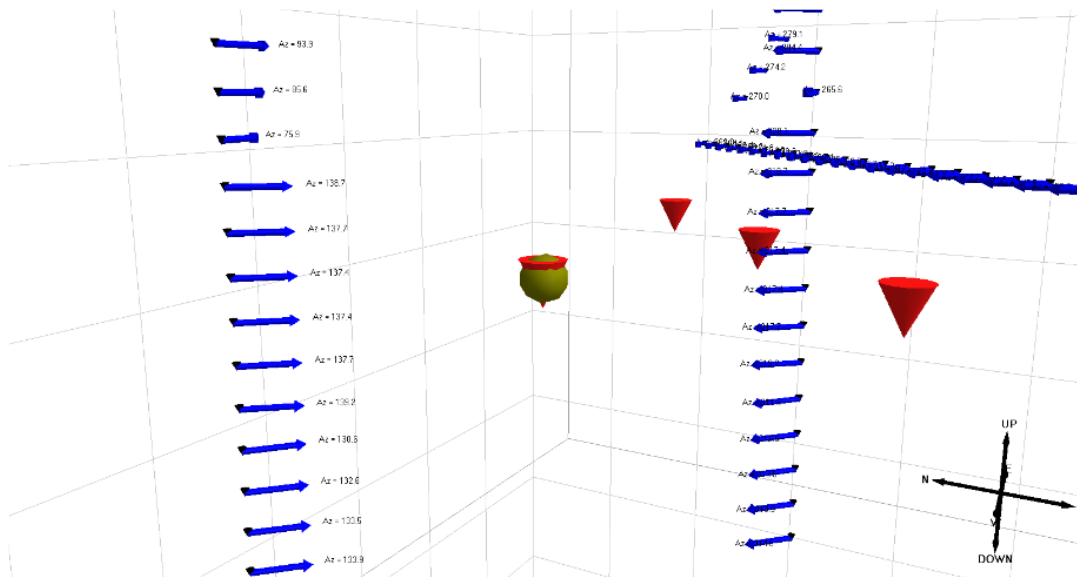

Figure 9-58: Event azimuth only source vector visualisation
2. **Azimuth Only** - show a single vector for each instrument that contains azimuth information only (Figure 9-58).